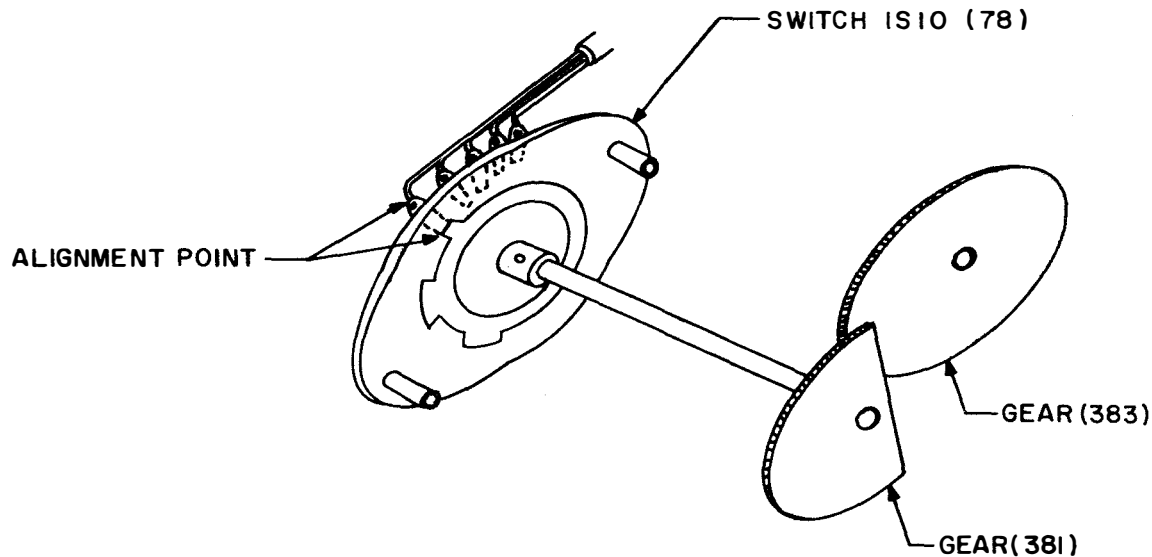

Figure 5-2. Capacitor Drive Switch 1S10 Alignment
(7) VARIABLE CAPACITOR 1C7 ALIGNMENT.
- (a) Operate variable vacuum capacitor 1C7 by rotating fiber gear (348) until plates are far apart (bellows compressed) as needed to disengage sector gear (381) from gear train.
- (b) At this point, check setting of switch 1S10 as follows (see figure 5-2).
1. Rotate sector gear (381) until leading edge of sector aligns with outer edge of gear (383).
2. Verify that rotating contact of switch 1S10 is in alignment with contact 11, as shown in figure 5-2.